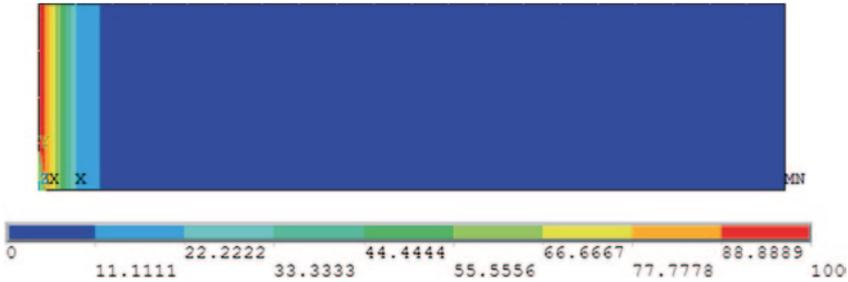

Fig. 5.23 Temperature distribution contour plot at $t=0.1$
- Figure 5.23 shows the contour plot of temperature distribution at $t = 0.1$ as it appears in the Graphics Window.